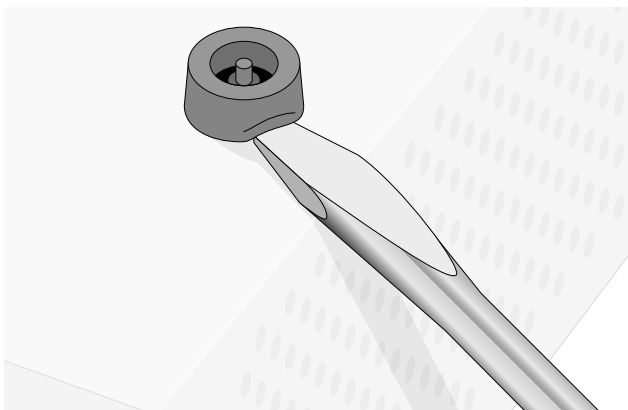

Figure 22 Removing the Feet
2. Using a flat-head screwdriver, remove the snap-on plastic feet from the bottom of the switch, as shown in Figure 22.